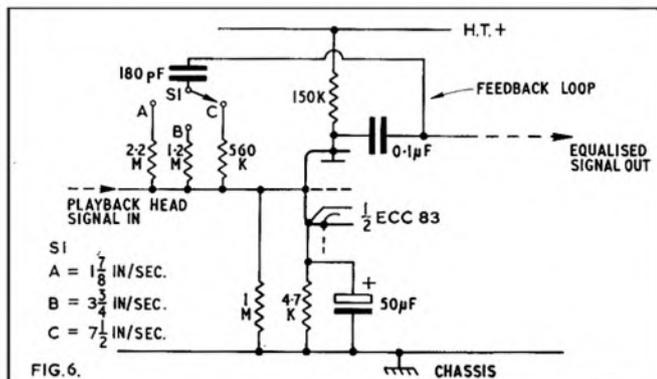

FIG. 6.
A representative circuit of this kind is shown in fig. 6. Here a triode valve is used and this may pick up signal either direct from the playback head or from the output of a pentode amplifier which itself is connected to the head.
By arranging suitable values for the capacitor (C) and the resistor (R), equalisation to match any tape speed is possible. It is not necessary to alter both C and R. In practice one of the other is switched. In the circuit of fig. 6 it is the R element which is switched.
Note that the time-constant in the circuit of fig. 6 is derived by multiplying the selected feedback resistor in *megohms* by the series capacitor in *pF*. The time-constant is then given in  $\mu\text{S}$ . For example, at  $1\frac{7}{8}$  i/s the time-constant is 2.2 times 180. This works out to a little under 400  $\mu\text{S}$ , corresponding to a turnover frequency of 0.4 Kc/s or 400 c/s.